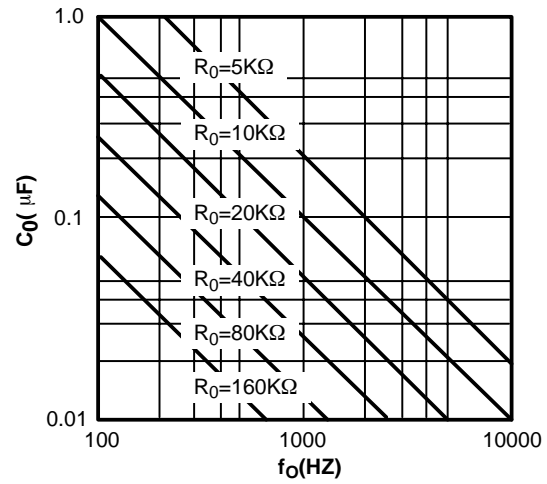

Figure 6. VCO Frequency vs. Timing Resistor
VCO Timing Capacitor (Pins 13 and 14): VCO frequency is inversely proportional to the external timing capacitor, C₀, connected across these terminals (see *Figure 6*). C₀ must be non-polar, and in the range of 200pF to 10 μ F.
- b) Calculate value of C_0 from design equation (1) or from *Figure 6* $f_S = f_0$: